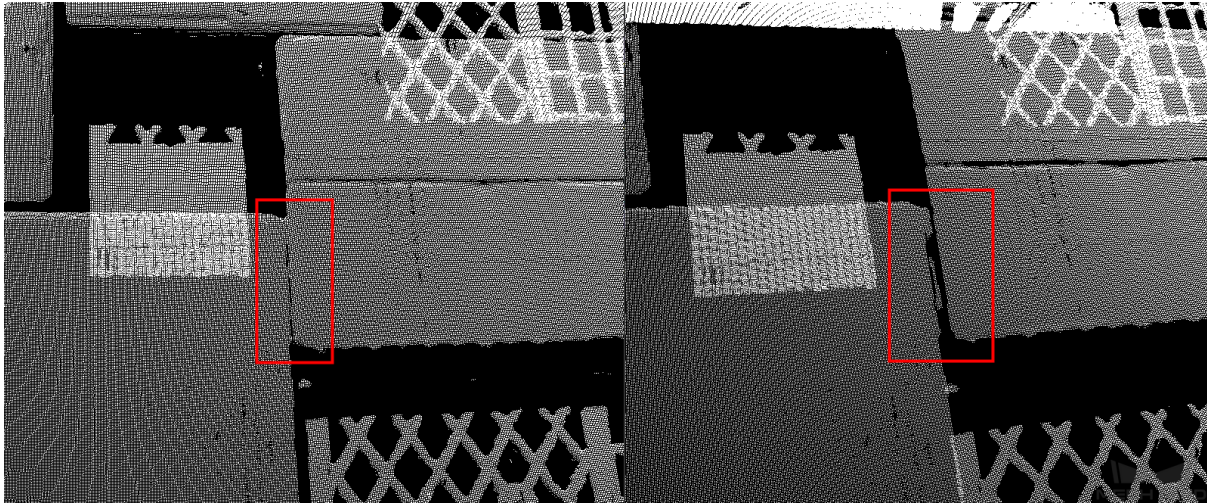

Figure2 NormalsFilter Results Comparison
- *NormalsFilter* :The Angle between each point in the point cloud and the reference direction is calculated according to the given reference direction. Points outside the range will be filtered. It is recommended to be used when point clouds need to be layered to avoid conglutination. Shown the red box in *figure 2*.